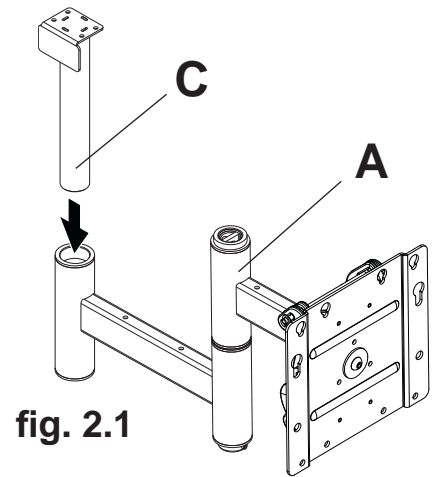

fig. 2.1
2 Insert arm axle (C) through arm assembly (A) as shown in figure 2.1.